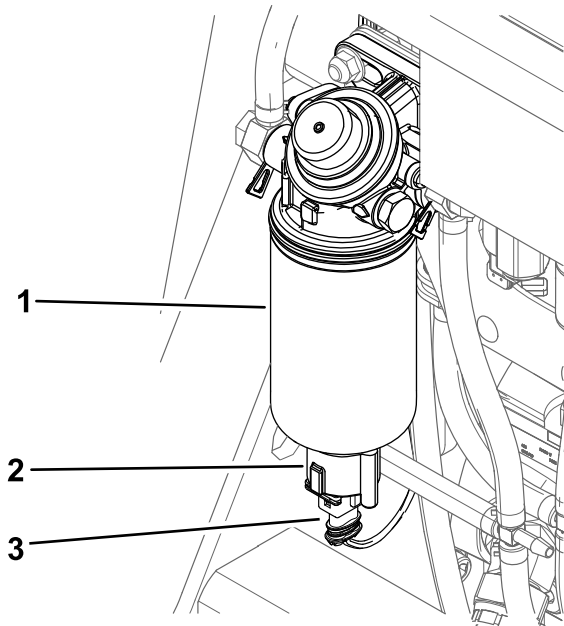

Figure 56
6. Disconnect the wire harness from the water separator (Figure 56).
7. Unscrew the switch from bottom of the filter canister and allow the water to drain (Figure 56).
8. Install the switch (Figure 56).
9. Connect the wire harness to the switch (Figure 56).
6. Unscrew the switch and drain the water separator (Figure 56).